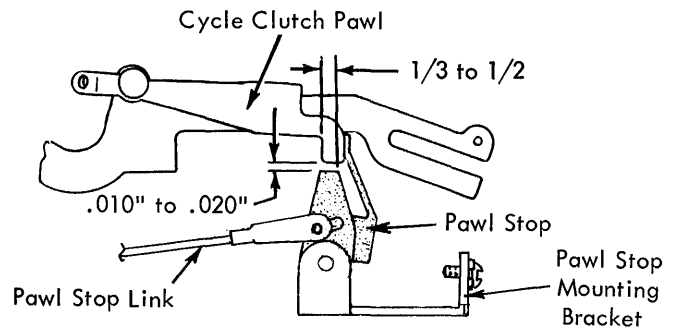

FIGURE 62. Cycle Clutch Pawl Stop
8. Cycle Clutch Pawl Stop - Adjust the pawl stop mounting bracket so that the cycle clutch pawl stop clears the cycle clutch pawl by .010" to .020" with keyboard locked. Best results are obtained on the high side of the adjustment (Fig. 62).
9. Pawl Stop Link - Adjust the pawl stop link so that there is 1/3 to 1/2 overlap of the cycle clutch pawl stop to the cycle clutch pawl with the keyboard lock mechanism in the lock position (Fig. 62).